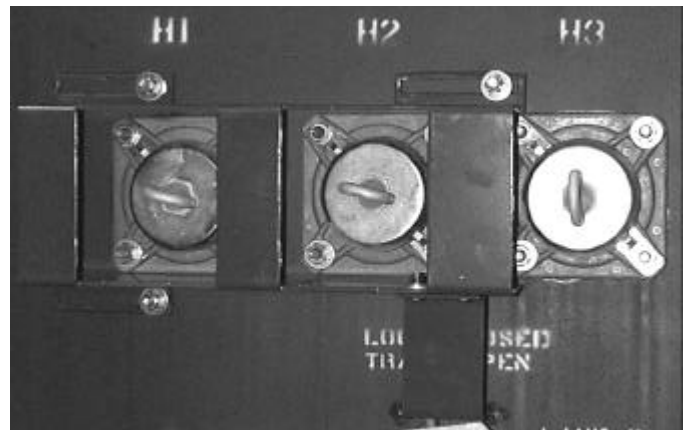

Figure 6. Safety baffle moved from over the fuses.
Nonloadbreaking fuseholders are mechanically interlocked with a loadbreak switch; be careful not to defeat this arrangement. When the transformer is deenergized by operation of the loadbreak switch, the safety baffle can be moved, permitting access to the fuses, as shown in Figure 6.
- 1. Deenergize the transformer.** Open the loadbreak switch to deenergize the transformer and allow the safety baffle to be released for access to the fuseholders, as shown in Figure 6.